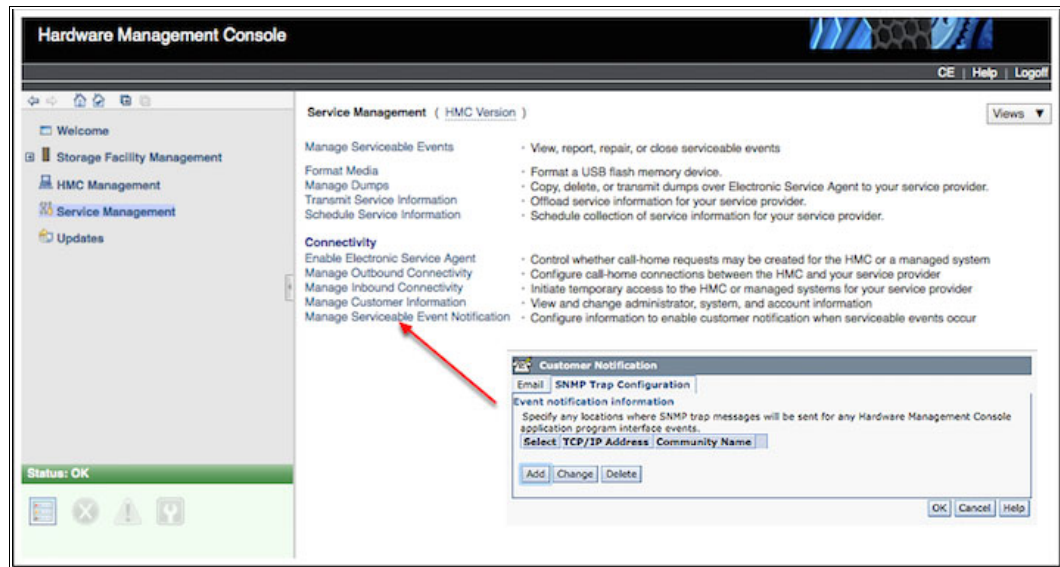

Figure 14-3 HMC Manage Serviceable Event Notification
2. Select **Manage Serviceable Event Notification**, as shown in Figure 14-3, and enter the TCP/IP information of the SNMP server in the SNMP Trap Configuration folder.